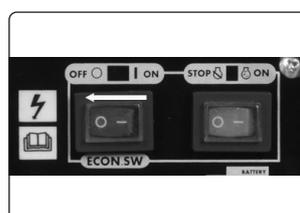

fig.5
6.3.1. Turn the ECS switch (Back) to "OFF" fig.5.